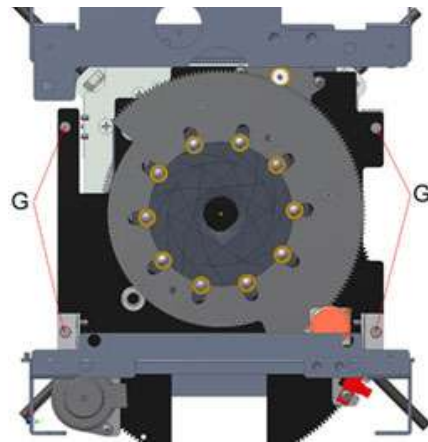

Fig. 4
- Unscrew the 4 screws **G** on the iris support plate, see **Fig. 4**
- Unscrew the 4 screws **G** on the iris support plate, see **Fig.4**
- Loosen the 4 screws **G** on the iris support plate, see **Fig.4**